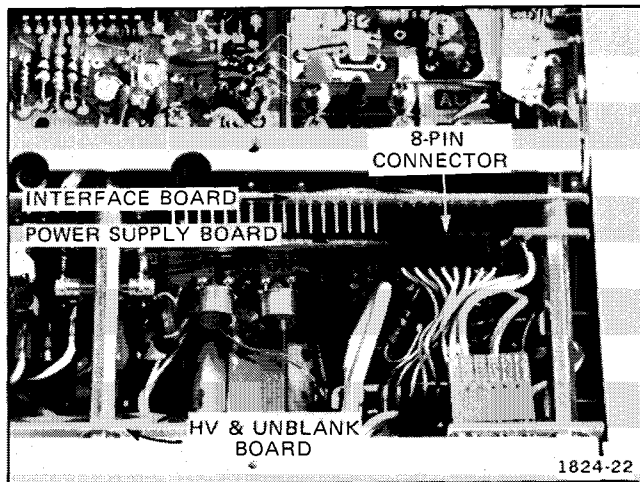

Fig. 4-5. Location of 8-pin connector in power supply.
a. Remove 8-pin connector from Interface board (see Fig. 4-5).